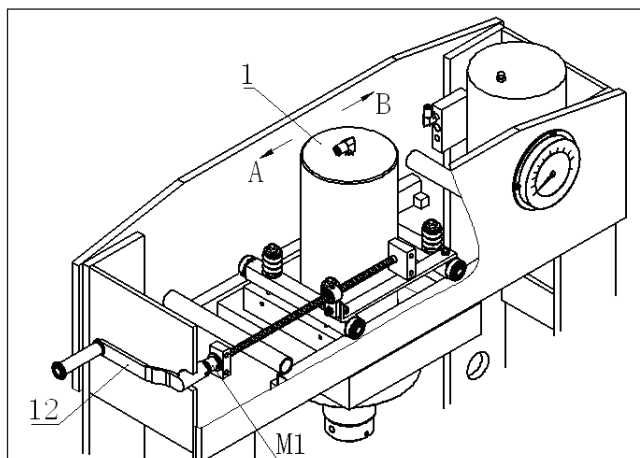

Fig. 12
- Insert the handle (12) to the worm connecting shaft (M1).
- Turn the handle (12) anti-clockwise, and the ram moves right (direction B)(refer to Fig. 12).